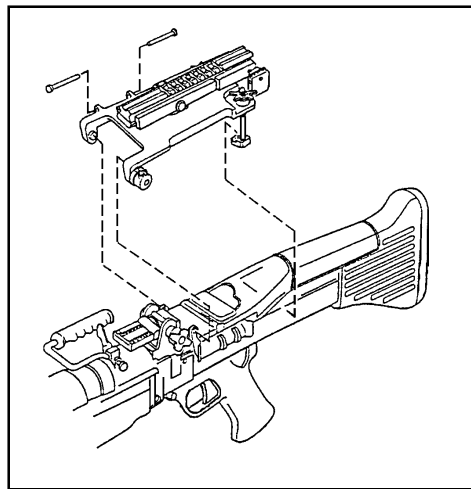

Figure G-29. Mounting the MWTS on the M60.
- (1) *Mounting Procedures.* Before zeroing and qualifying with the AN/PAS-13, the gunner must mount the sight on the weapon (Figure G-29).